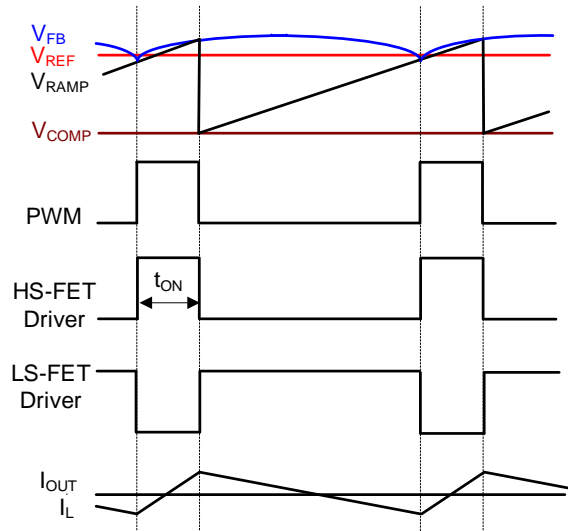

Figure 3: CCM during Heavy-Load Operation
This is called shoot-through. To avoid shoot-through, a dead time (DT) is generated internally between the HS-FET off time (t_{OFF}) and the LS-FET t_{ON} , and vice versa. Figure 3 shows PWM mode under heavy-load conditions.
If the output current (I_{OUT}) is high and the inductor current (I_L) is above 0A, then the part operates in continuous conduction mode (CCM) (see Figure 3). The MPQ8633B-H can also be configured to operate in forced continuous conduction mode (FCCM) when the I_{OUT} is low. See the Mode Selection section on page 14 for more details.